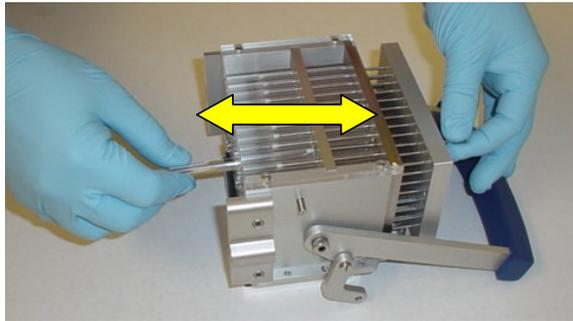

Figure 5-11 (left to right): Inserting plunger rod tool into bottom of glass barrel; removing syringes.
- Push the plunger rod tool through the bottom of the glass barrel until it meets with the Teflon tip. Slightly push on the Teflon tip until you can see the corresponding plunger move above the top of the head. Grasp the plunger top with your free hand and pull it out slightly more. Push down on the plunger until you can take hold of the glass barrel. Separate the glass barrel from the plunger. Continue this until you have removed all syringes necessary. See Figure 5-11 for removing syringes.